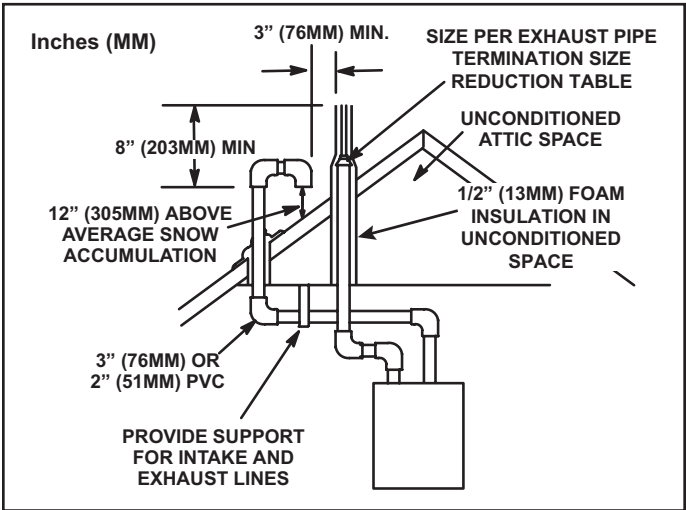

Figure 30. Direct Vent Roof Termination Kit
Intake and exhaust pipes may be routed either horizontally through an outside wall or vertically through the roof. In attic or closet installations, vertical termination through the roof is preferred. Figure 30 through Figure 38 show typical terminations.
- 3. On roof terminations, the intake piping should terminate straight down using two 90° elbows (See Figure 30).